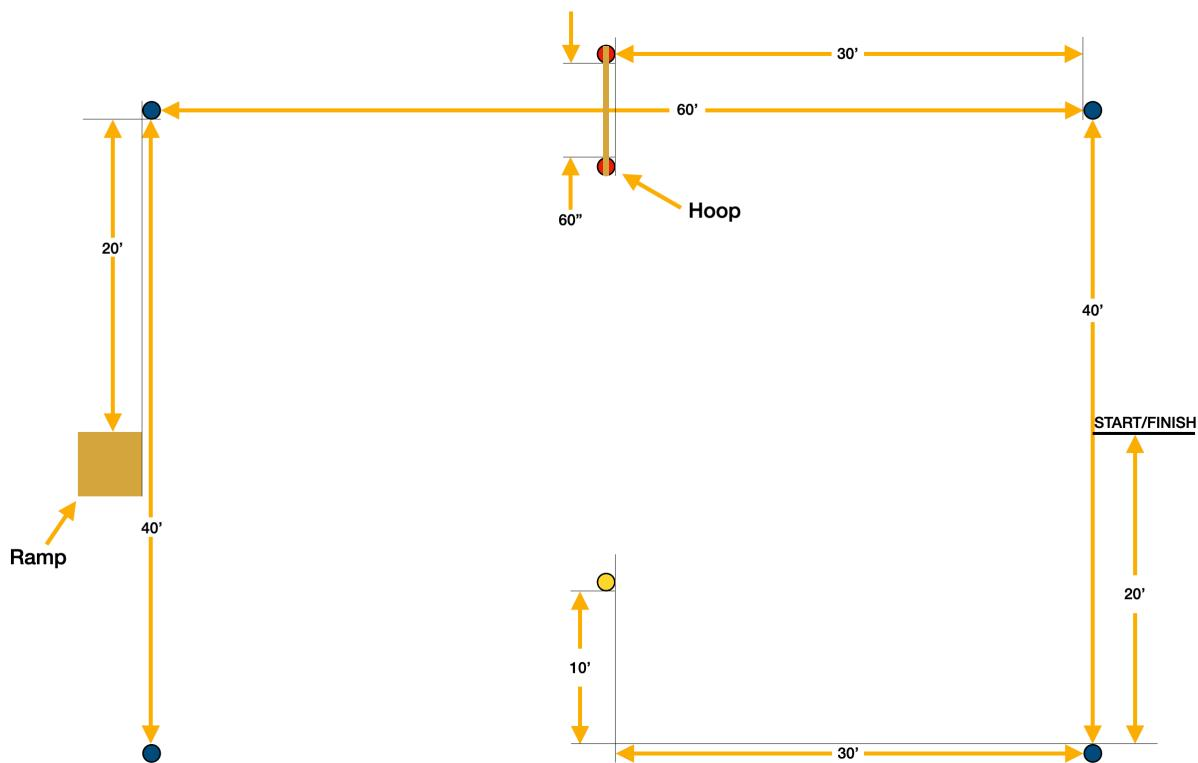

Figure 1: AVC Course Layout
2. Each vehicle must pass on the outside of stanchions in the course shown in Figure 1: AVC Course Layout. Blue stanchions will be placed on top of the blue corner dots shown and yellow stanchions on the yellow dot. Final placements of stanchions and obstacles will be at the discretion of the judges.
9. During the competition the course will be closed to both spectators and participants. Participants with vehicles currently running may follow within the inner perimeter of the course (Yellow lines in figure 1), but may not be on the course with the vehicles when they are running.